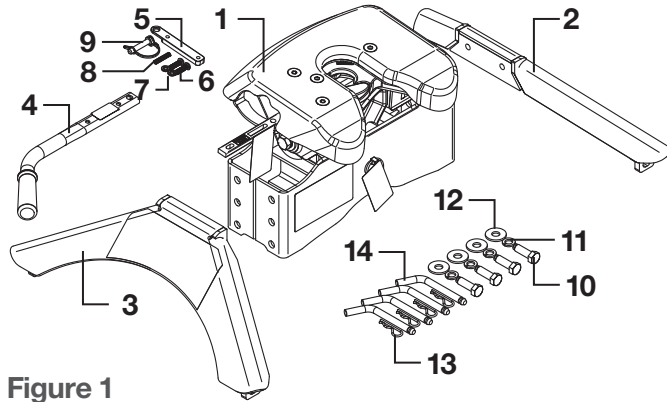

Figure 1
Attach the leg weldments to the mid-section with the supplied hardware, 'Parts List' items 10, 11 and 12. See Figure 1. Depending on which holes are required to achieve proper ride height, attachment of the legs to the mid-section